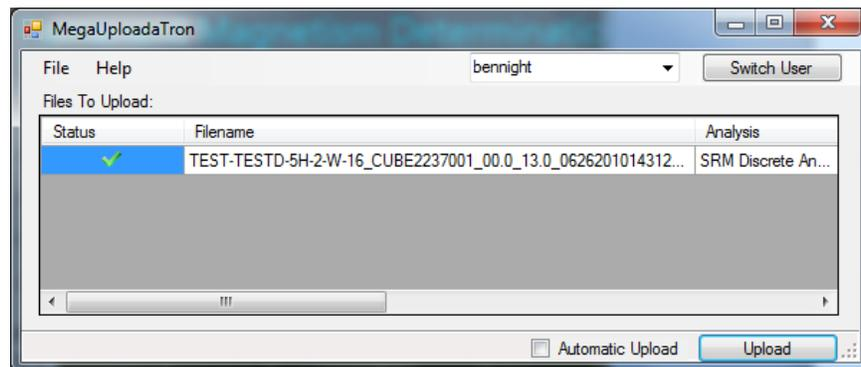

Figure 10. LIMS Uploader Screen.
1. Double-click the upload icon on the desktop to open the MegaUploadTron (MUT) uploader screen (*Figure 10*).